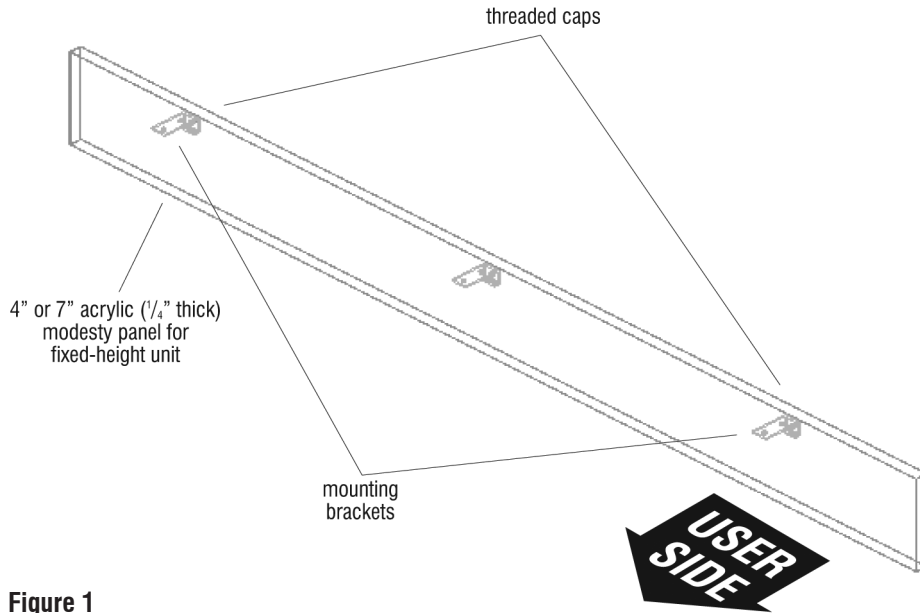

Figure 1
1. Insert a threaded cap into one of mounting holes on the non-user side of the acrylic modesty panel for fixed-height units. Orient a mounting bracket squarely to the user side of the panel, with the short end of the bracket against the back of the modesty panel, and the long end at the top of the panel as illustrated. Align the mounting hole of the bracket with the back of the threaded cap. On the user side of the panel insert a #10-32 x  $\frac{5}{16}$ " Phillips pan head screw through the bracket and into the threaded cap, then tighten to secure the bracket. Repeat step 1 to secure the remaining brackets to the modesty panel (Figure 1).